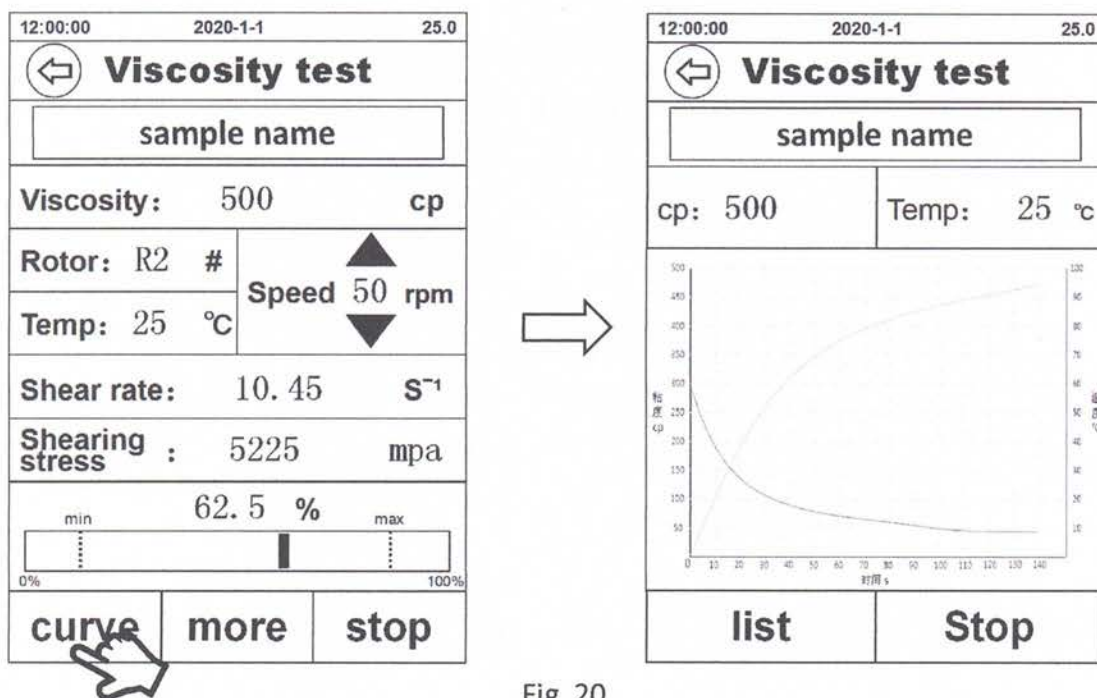

Fig. 20
4) Click “Curve” during the test, and the display interface will change from the list display to the coordinate system display status (Fig.20). To return to the list interface, click the “ ← ” icon in the upper left corner or click the “List” button.